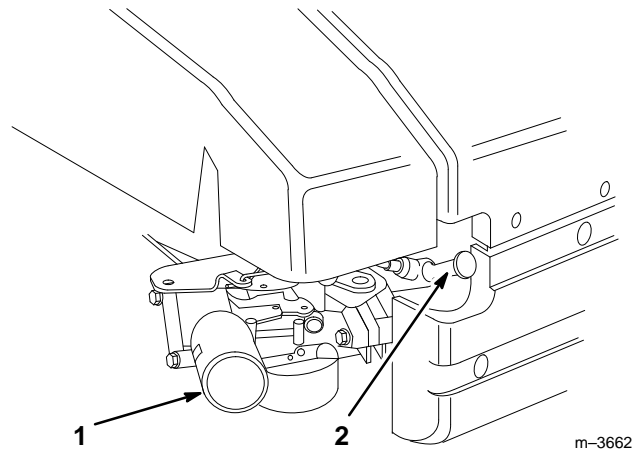

Figure 11
1. Push spark plug wire onto spark plug (Fig. 11).
4. Push primer three (3) times (Fig. 11). **Wait about two (2) seconds between each push.**
1. Stop the engine and wait for all moving parts to stop. Pull wire off spark plug (Fig. 11).
1. Stop engine and pull wire off spark plug (Fig. 11).
1. Stop engine and wait for all moving parts to stop. Pull wire off spark plug (Fig. 11).